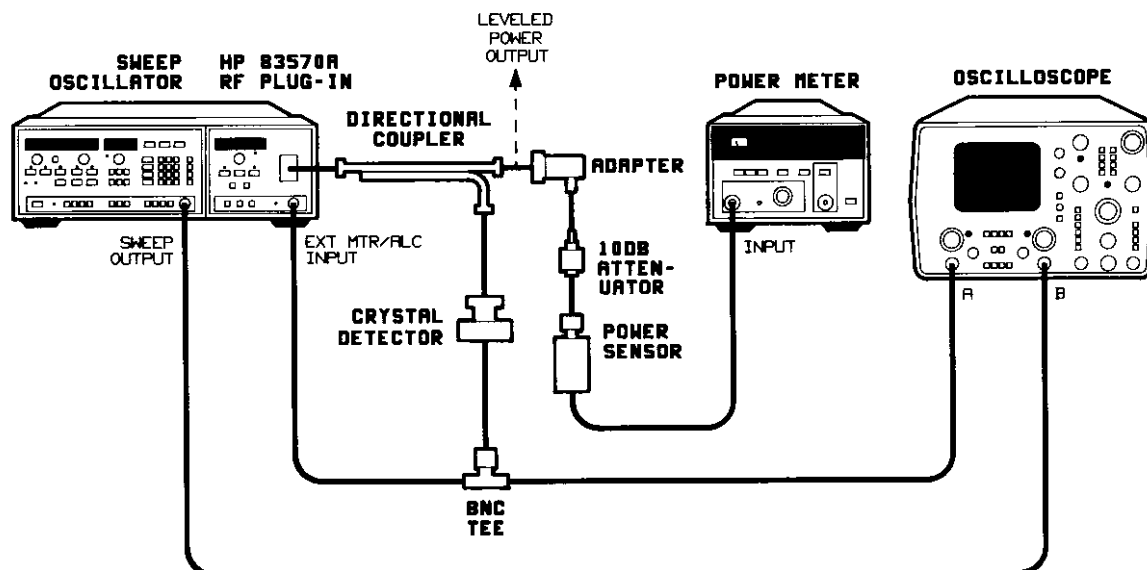

Figure 3-5. External Crystal Detector Leveling Set Up
1. Connect the equipment as shown in Figure 3-5. Turn the instruments on and allow them to warm up for at least 30 minutes.
4. To use leveled RF power output to test external equipment, make the connection at the point marked Levelled Power Output in Figure 3-5.